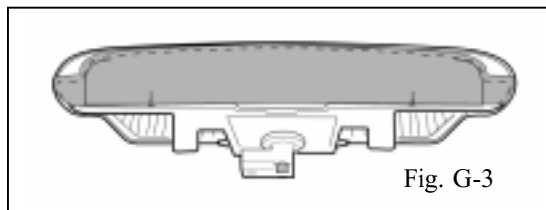

Fig. G-3
- ➡ 4. Select appropriate CHMSL cover blackout film color. Peel the film from its liner and apply it to the red CHMSL lens as shown. The bottom edge of the film is straight and has two locator slits along the edge. It is butted up against the top of two molded tabs on the lens and the slits should line up side to side with the molded tabs. (Fig. G-3)